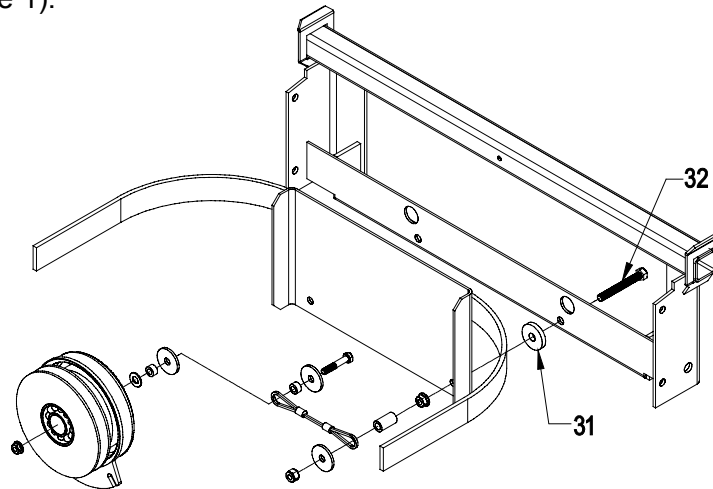
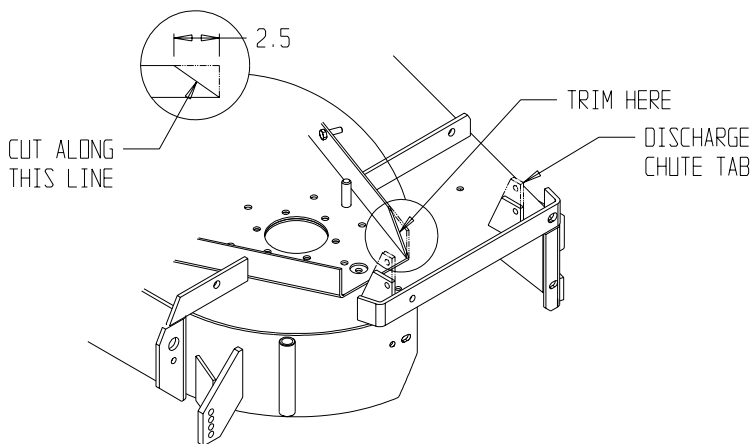
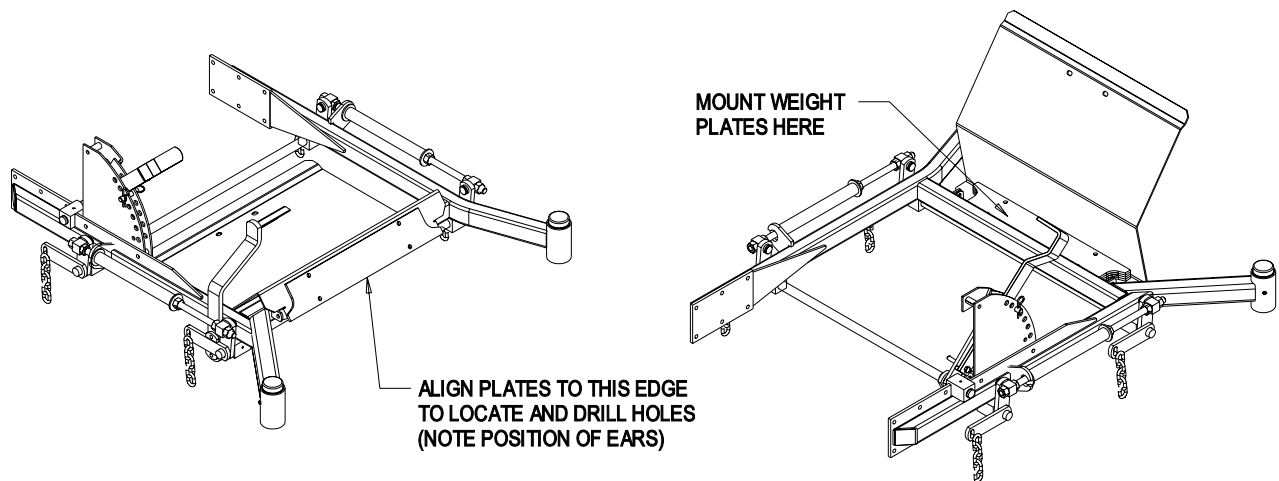

FIGURE 1
FIGURE 5
FIGURE 9
Items 21,22,26, 29, 30, 31 and 32 not shown. See figure 1 for installation of 31 and 32. See figure 5 for installation of 29 and 30. See figure 9 for installation of 21 and 22.
For units with serial numbers below 190,000, install washers (Item 31) between the bagger mount weldment and clutch guard when installing the bagger mount weldment. This will provide for proper alignment of the mount holes with the holes in the side plates (see figure 1).
For units with serial numbers below 160,000, remove the two tap bolts that tie the clutch straps to the clutch guard and replace with new tap bolts (Item 32). These units also require the use of the washers (Item 31) between the bagger mount weldment and the clutch guard. These parts should be installed when the bagger mount weldment is installed on the rear of the unit (see figure 1).
14. The front right deck stiffener must be trimmed for belt clearance on 52" Lazer Z units with serial numbers less than 220,000. Measure and mark the deck stiffener (see figure 5). Trim off the indicated portion of the stiffener. Touch up the trimmed area with Exmark red touchup paint – P/N 1-850337.
2. Locate the position of the mounting holes. On some machines the hole positions are indicated by tool marks on the floor pan. Most machines will require clamping a weight plate to the front of the floor pan (see figure 9). The ears on the weight plate should be towards the bottom (upside down from the actual mounted position). Align the bottom edge of the weight plate with the bottom edge of the floor pan front panel. Center the weight plate side to side. Mark the position of all four holes using a center punch.